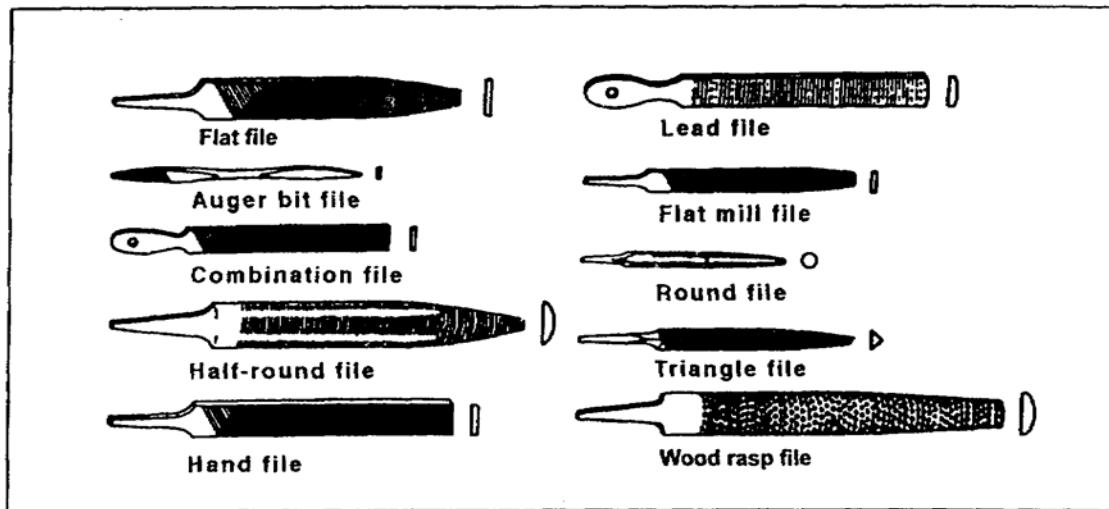

Figure 3-9. Files
f. Files. Files are steel tools used for cutting and smoothing metal and wood. A wood rasp is a coarse file that differs from the ordinary file in teeth shape and size. There are over 3,000 types and kinds of files and rasps. The most common types are shown in Figure 3-9. Clean files with a file card, which is a wood handle with a brush on one side and fine-wire teeth on the other. Preserve the sharpness of files and rasps by storing them in a rack. If you need to carry files in a toolbox, wrap them individually in cloth or paper to protect their teeth. To prevent rusting, keep files dry and do not use rust-preventive compound on them. Files are very brittle, so do not hammer files or use them as pry bars.